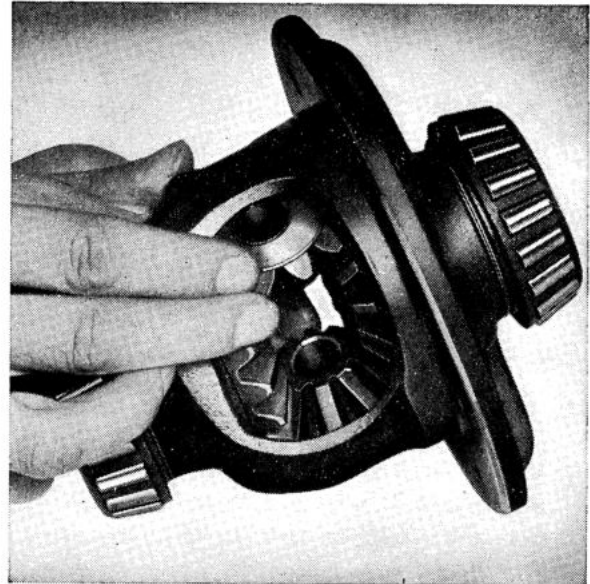

Fig. 4-149. Fitting the differential gear
1. Place the differential side gears together with the thrust washers in the differential carrier. Then "roll" in both the side pinions simultaneously with the dished thrust washers, see Fig. 4-149.
2. Drive in the shaft. Check the differential. If there is any play, fit new dished thrust washers, see Fig. 4-149.